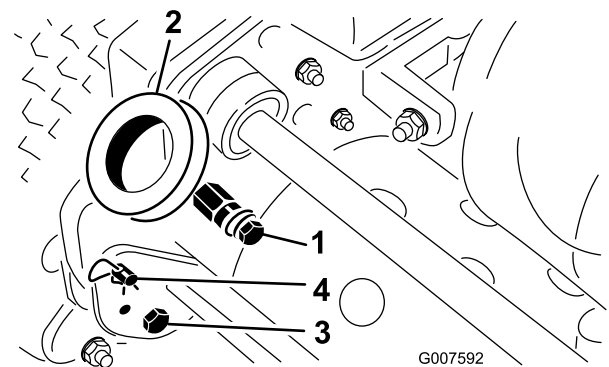

Figure 2
1. Remove the bolt, washer, and lockwasher from the mounting pin on each side of the mower (Figure 2).
2. Remove the bolts and locknuts securing the bottom of the handle arms to each side of the mower (Figure 2).
3. Remove the hairpin cottes and ring pins securing the handle arms to the rear of the frame (Figure 2).
4. Insert the handle ends thru the holes in the handle arms and align the holes with the mounting pins (Figure 2).
1. Remove the hairpin cotters from the ring pins on each side of the mower (Figure 2).
2. While supporting the handle, remove the ring pins from each side and raise or lower the handle to the desired operating position (Figure 2).